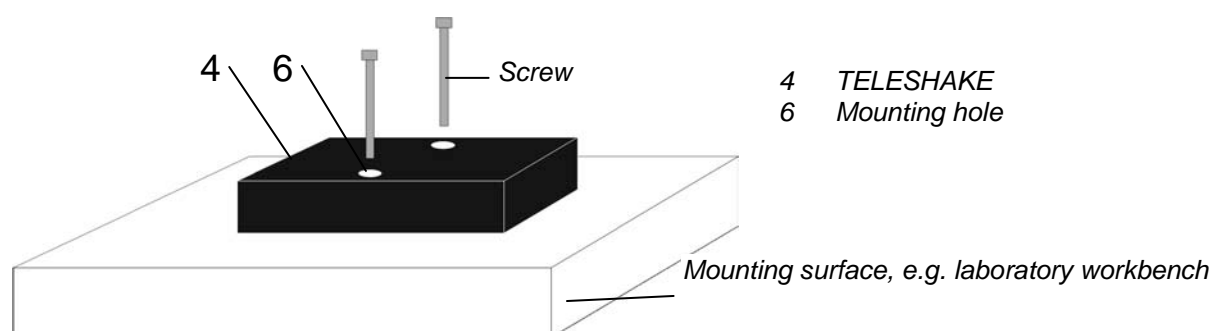
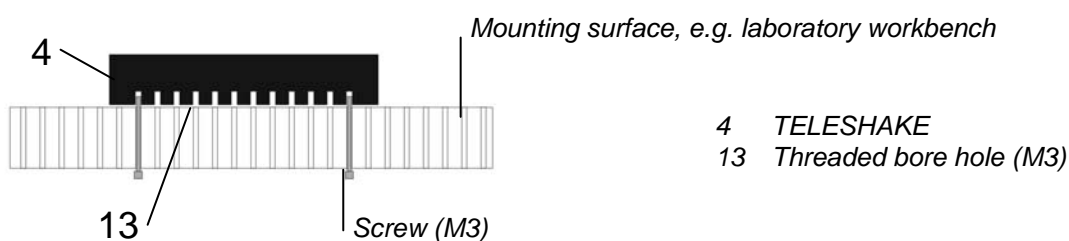

Figure 3: Mounting the TELESHAKE using the mounting holes
Figure 4: Mounting the TELESHAKE using the threaded bore holes (M3)
Insert the screws into the mounting holes (6) from above and screw them firmly into the mounting surface (Figure 3).
Or use the threaded bore holes (M3) (13) to attach the TELESHAKE (4) to the workbench from below (Figure 4).
- ◆ Use a sharp object to remove the four rubber feet at the bottom of the TELESHAKE (4).
- ◆ Mount the TELESHAKE (4) on the mounting surface (see Figure 3 and Figure 4).